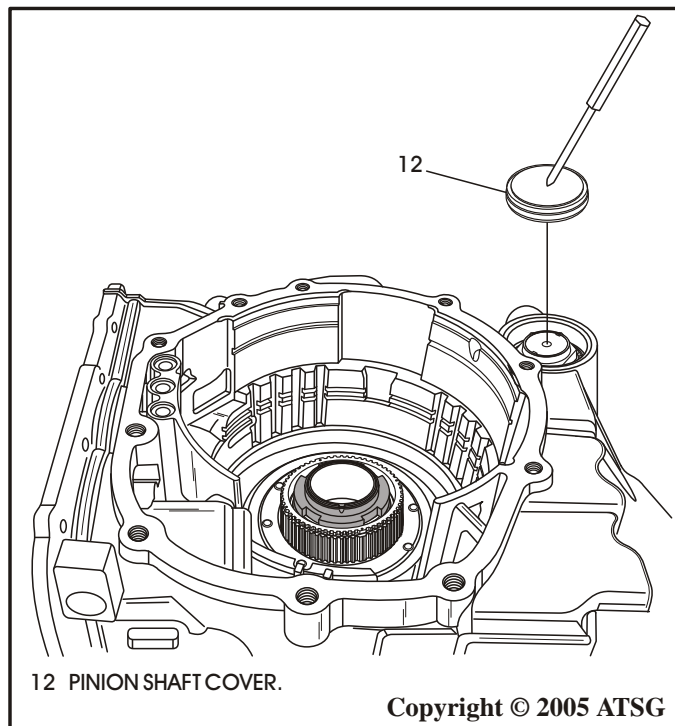

Figure 53
69. Using a screw driver or punch, drive it through the cap, as shown in Figure 53, and pry out the cap and discard.